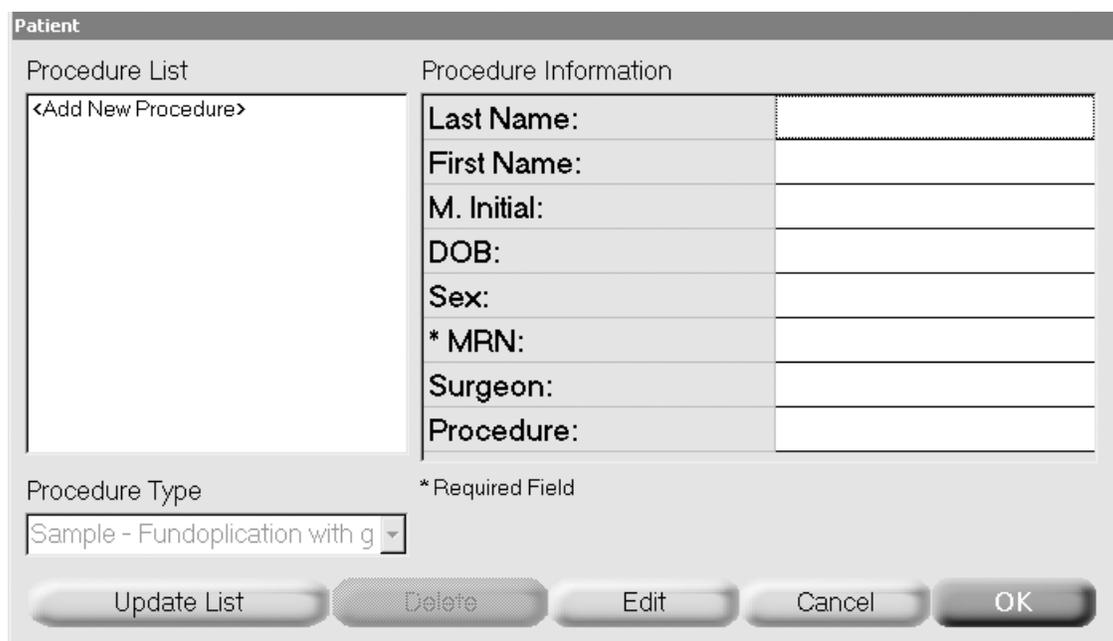

Figure 10. Add New Procedure Box
1. On the 640 System screen, click **Patient**. The Patient dialog box displays. In the **Procedure List**, the first entry is labeled <Add new procedure> (Figure 10). If you are not using DORAWEB/PACS/HIS, proceed to Step 3.